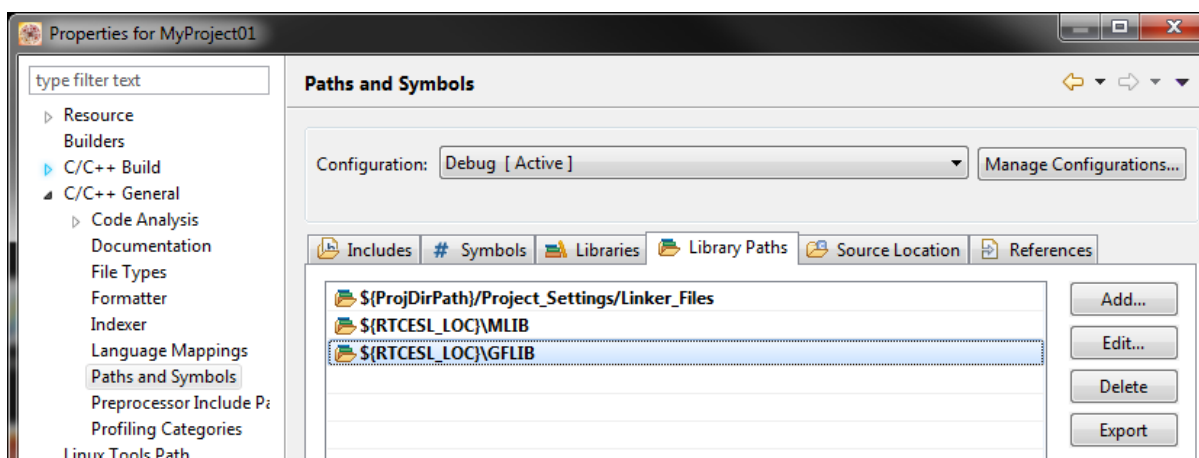

Figure 1-20. Library paths
- In the right-hand dialog, select the Library Paths tab. See Figure 1-20.
8. Click OK, and the paths will be visible in the list. See Figure 1-20.